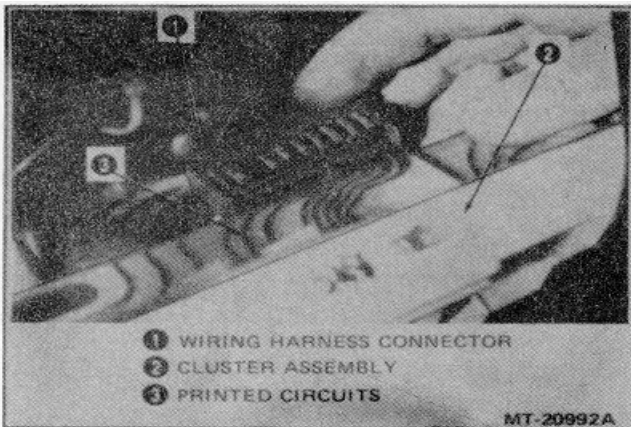

Figure 3-Removing Wiring Harness Connector
3. Disconnect wiring harness connector from printed circuit on back of cluster assembly (Figure 3).